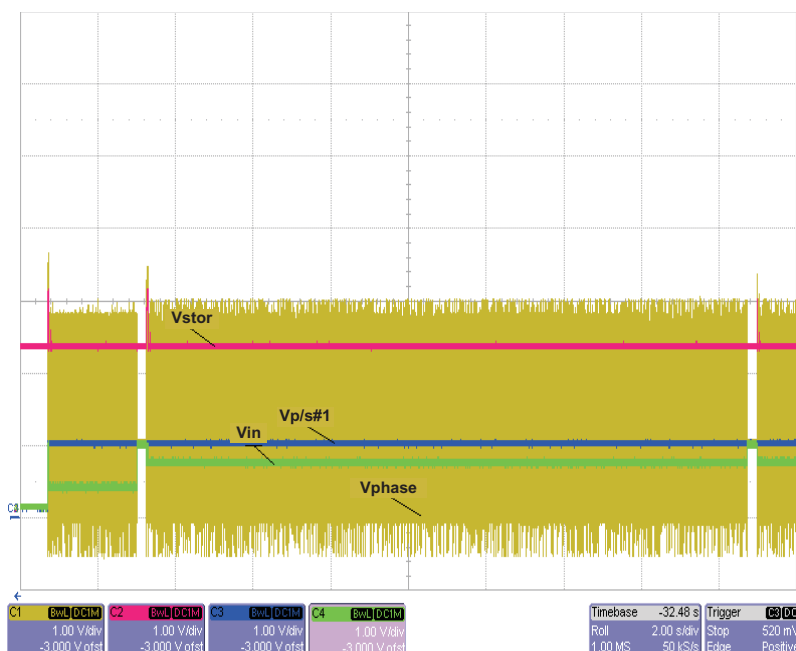

Figure 4. Powering up with a Battery above UV
2. Set PS#1 to 1VDC and hot plug to input with 10Ω series resistor, see Figure 4.
Note in Figure 4 that the BAT FET is on and the STOR output is powered prior to the input being applied. This means the converter will start up in normal boost mode and after doing its initial sampling will regulate V_{IN} to the MPPT threshold.